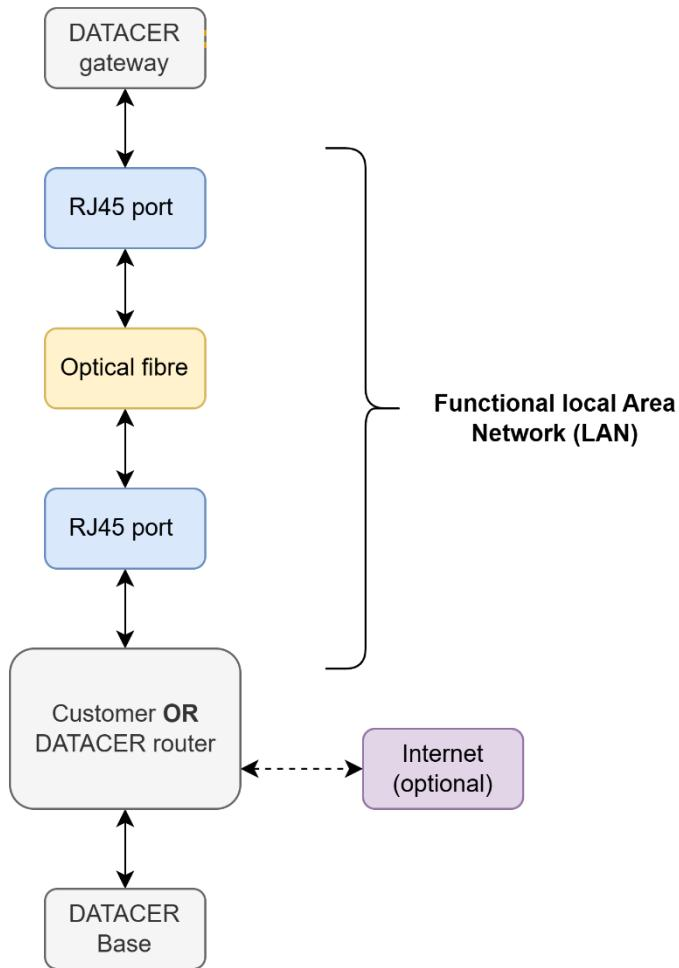
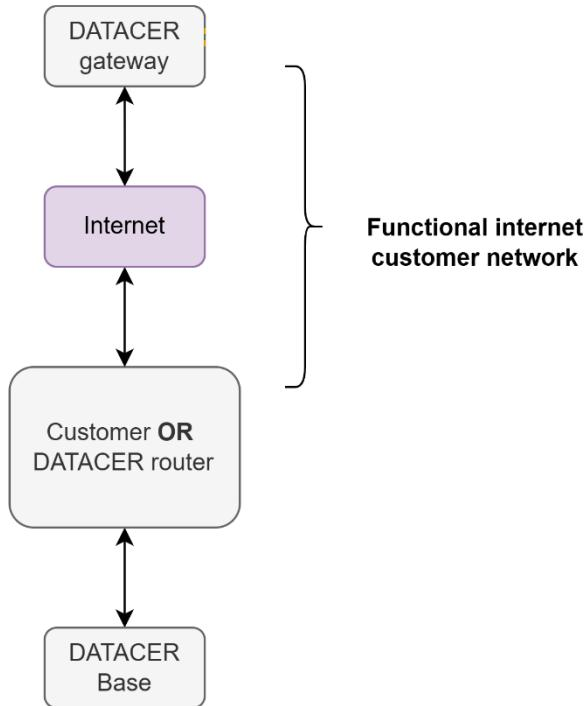

Figure 117: Functional local area network (LAN)
Figure 118: Customer internet network in operation
- The local or internet network provided by the customer must be operational (see Figure 117 and Figure 118 below).